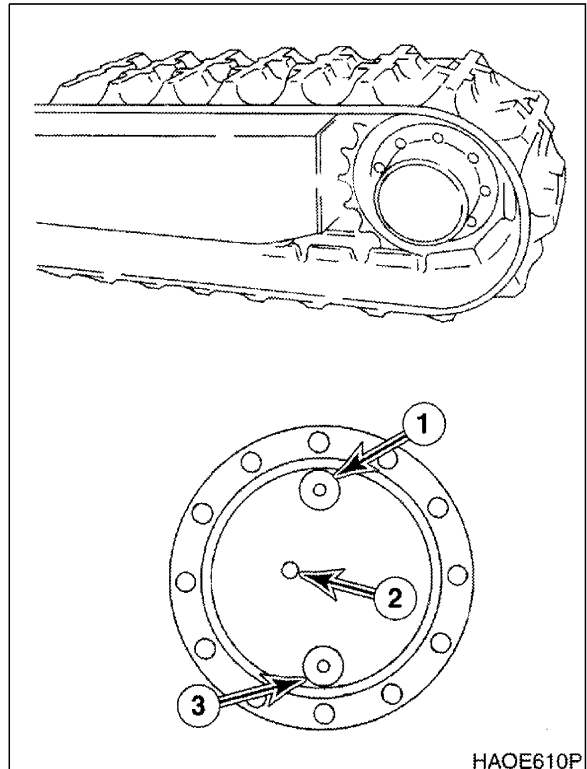

Figure 67
2. Rotate the track until ports (1 thru 3, Figure 67) are in their proper positions.
3. Place a container under plug (3, Figure 67) and remove plugs (1 and 3) to drain the travel motor fluid.
4. Install plug (3, Figure 67) Remove plug (2) Refill the travel motor case with fluid through port (1) until the fluid level is at port (2). Install plugs (1 and 2).